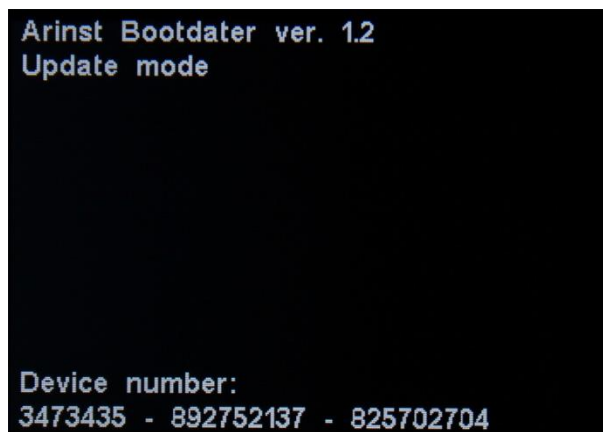

Figure A3.3 - The device is in update mode
3.3. If the update process was interrupted, the device will start in update mode until the update process is completed. The device displays a message about the update mode in which the device is located (Figure A3.3).